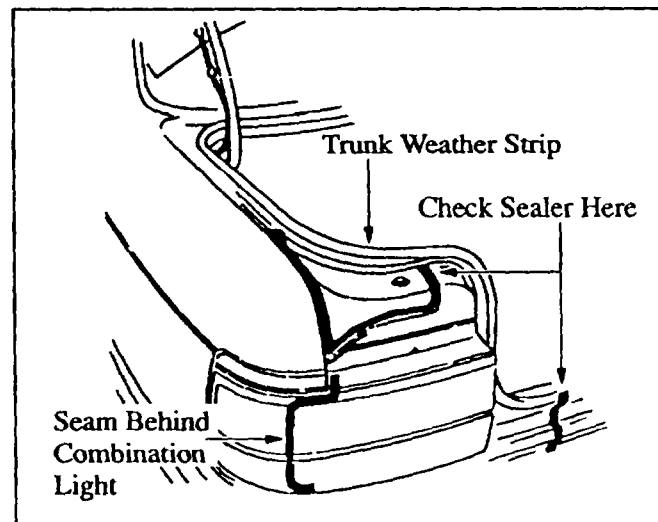
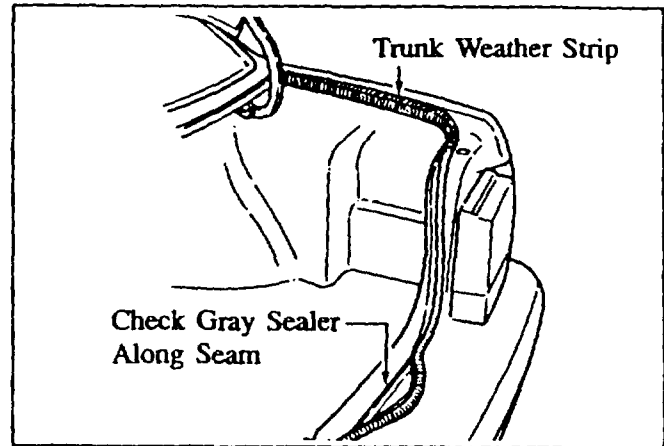

Figure 21: Inspecting Rear Trunk Area
Figure 22: Checking Grey Sealer Under Trunk Weatherstrip
1. If water is running down over the interior trunk end-panel trim or over/under the trunk weatherstrip, pull up the trunk weatherstrip and check grey sealer material and any body seams near the linkage area. Confirm that grey sealer covers the top of the flange in one solid strip. Check for pin holes, missing sealer or burrs. **Figure 21** and **Figure 22.**
2. If water is located behind the interior trunk end-panel trim or carpet, remove the trim panel. Direct a stream of water at the rear of the vehicle and pinpoint the location of the leak. Check the body seams for any pinholes or missing sealer. **Figure 21.**
- If the leak is from the combination lamp(s) area, confirm that the mounting studs/nuts are tight and the assemblies are not cracked. Check end panel-to-quarter panel seams for any pinholes or missing sealer. If the leak continues, remove the combination lamp(s) and gasket(s). Install a new gasket to the combination lamp(s). Figure 21.